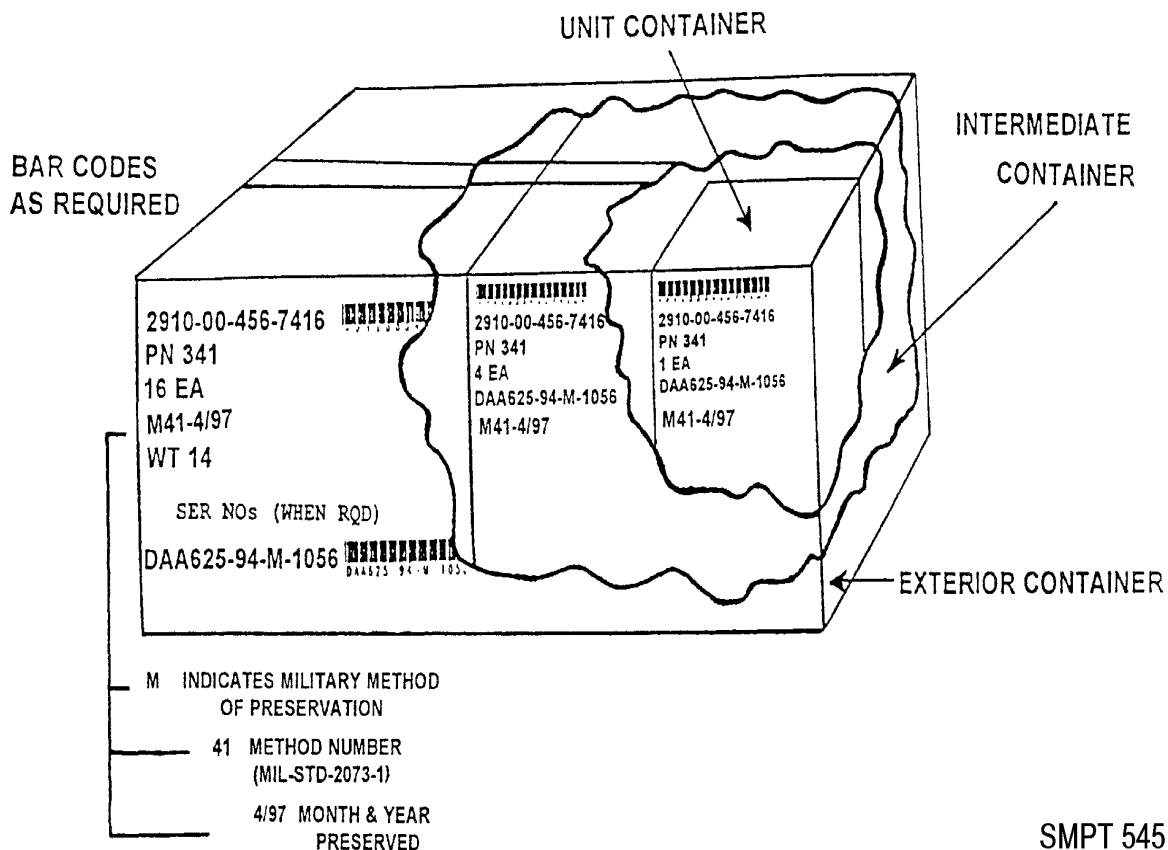

Figure 4-28. Unit, intermediate, and exterior IDENT and contractor markings.
- X Part number (PN). The part number cited in the contract shall be shown (except for ammunition items with NSN/DODIC designations). If the item has no PN assigned to it or if no PN is required, then nothing is shown.
- X Serial number, when required. See figure 4-28.
Exterior Container Contract Data Markings (See Figure 4-28).